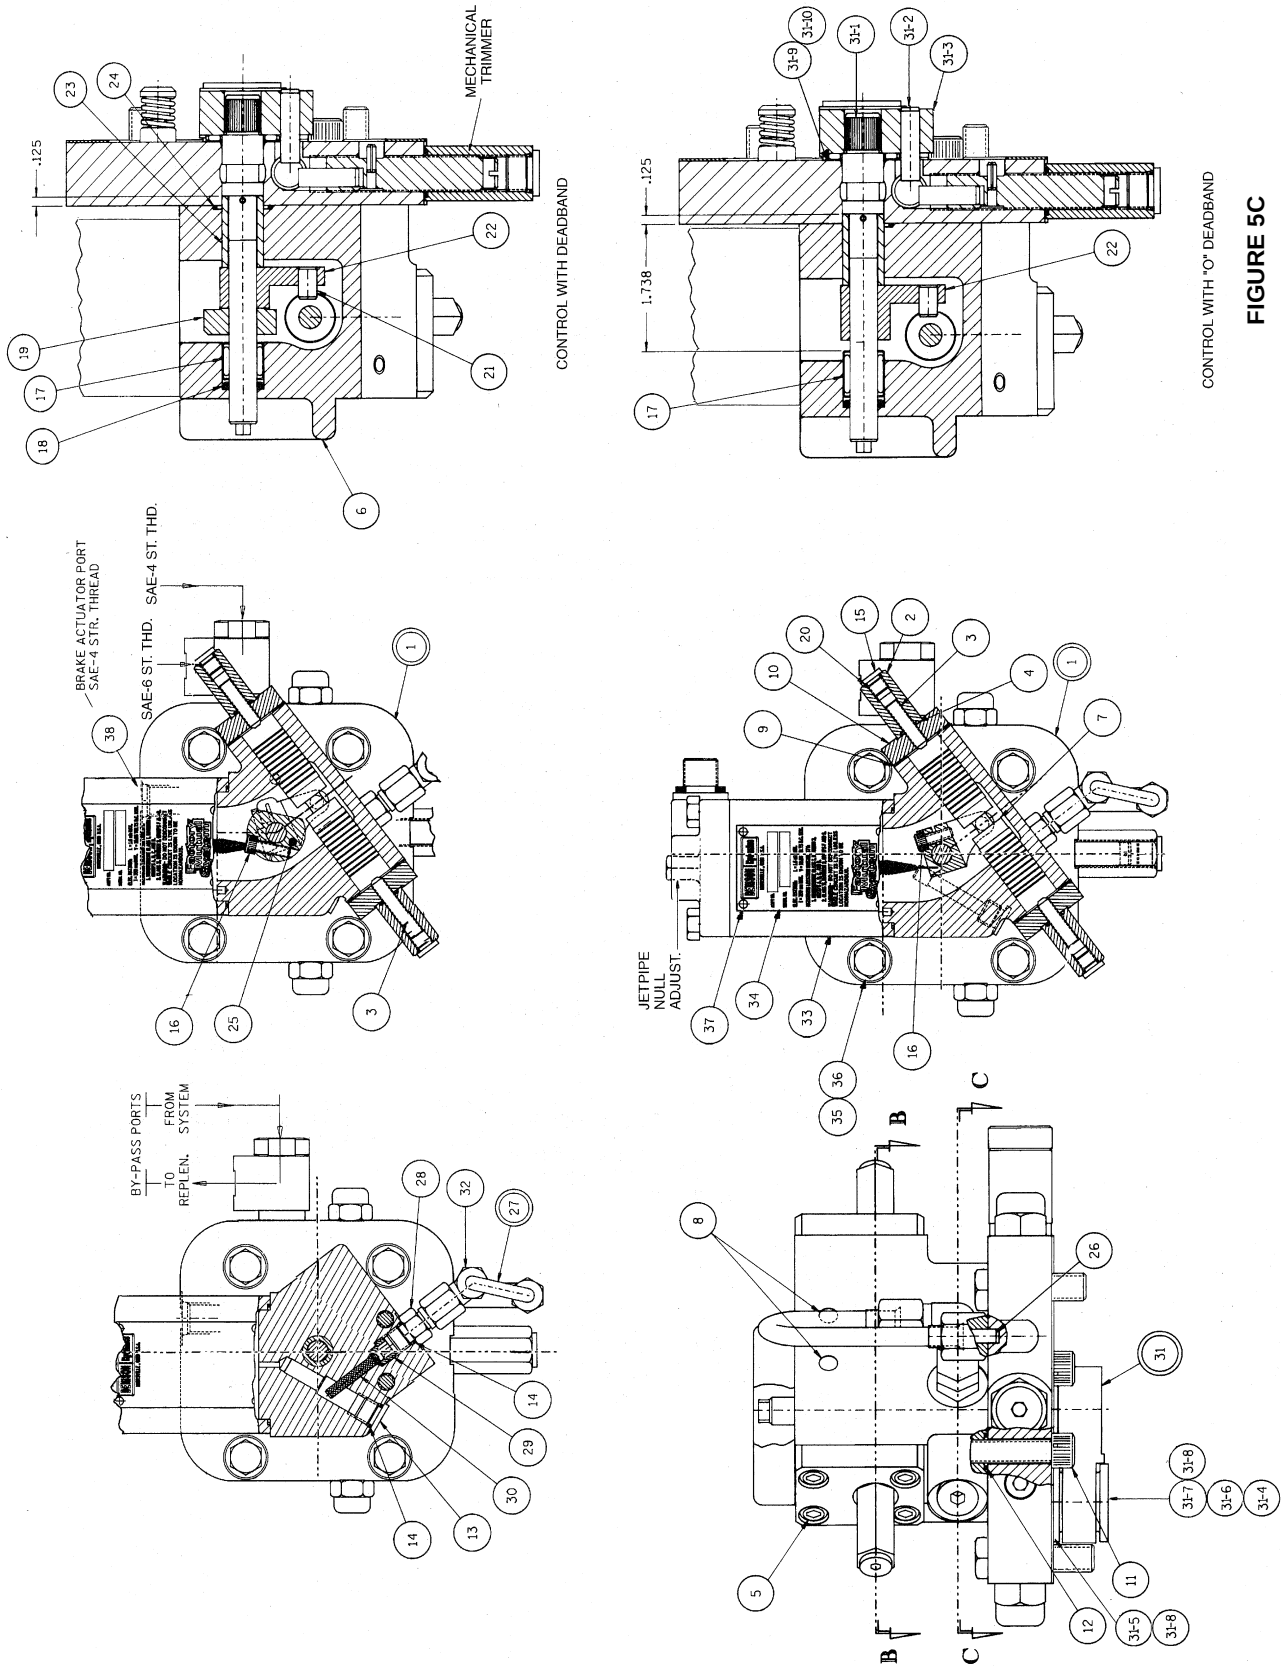

FIGURE 5C
PARTS LIST*For Figure 5C Electric stoker**S23-12414 - 5C* 00 (With Deadband)**S23-12420 - 5C* 01 (No Deadband)*
*For Figure 5C-1 Brake and bypass